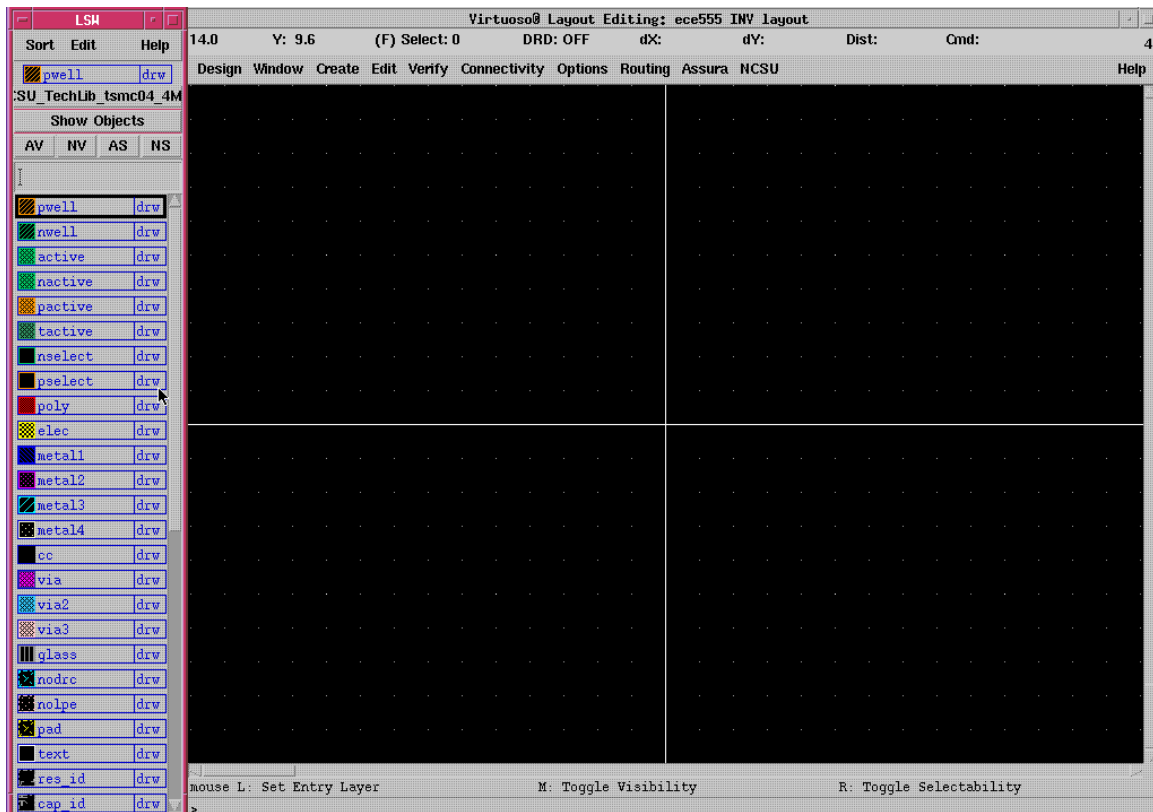

Fig. 2. LSW and Layout Editing window
- With click OK, you will see two windows appear, one is *LSW* (Layer Selection Window) and the other is *Virtuoso Layout Editing* window, shown Fig. 2.